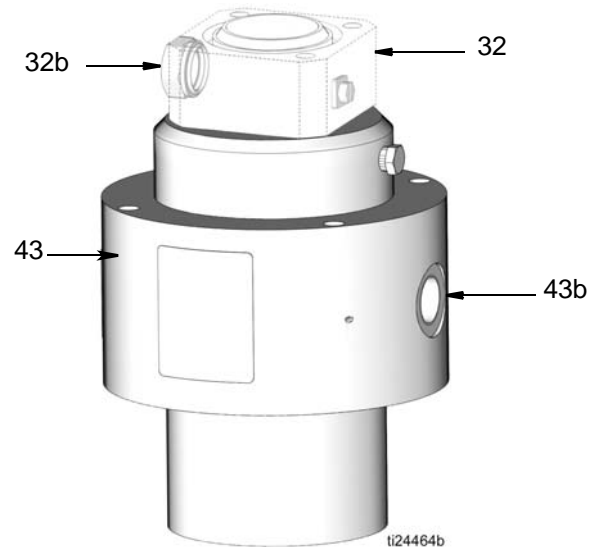
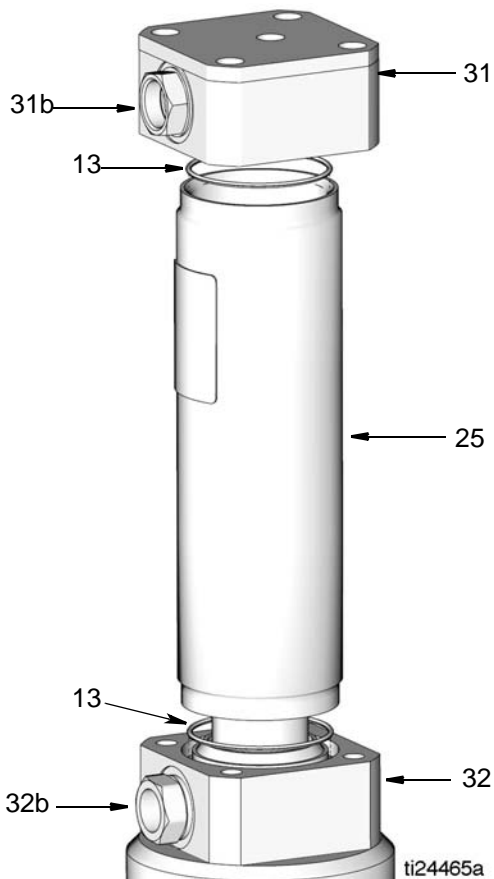

FIG. 14
FIG. 15
NOTE: When attaching the motor housing (43) onto the bottom cylinder cap (32), be sure that the port (43b) in the motor housing and the port (32b) in the bottom cylinder cap are facing opposite directions as shown in FIG. 14.
3. Install seal (44) on retainer nut (11). Install retainer nut in pump adapter (8) (FIG. 14). Torque retainer nut to 54 to 56 ft-lbs (73-75 N.m).
4. Slide bottom cylinder cap (32) onto the cylinder (25) ensuring the tie rods (38) go through their respective holes in the top cylinder cap (31).
NOTE: When attaching the bottom cylinder cap (32) onto the cylinder (25) be sure that the port (31b) in the top cylinder cap (31) and the port (32b) in the bottom cylinder cap (32) are in line with each other. Be sure o-rings (13) are in place in the top and bottom cylinder caps as shown in FIG. 15.